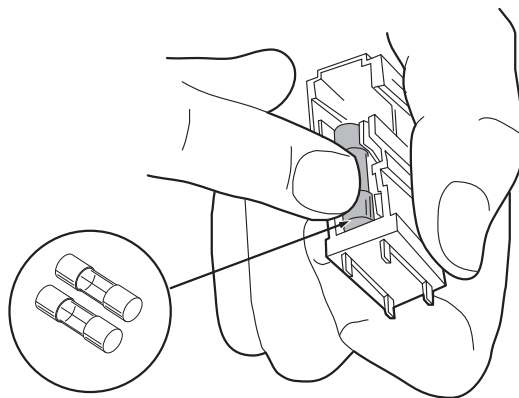

Figure 5-8 Insert New Fuse
9. Insert the new 2.5A, 250T fuses into the fuse holder. (Refer to Figure 5-8.)